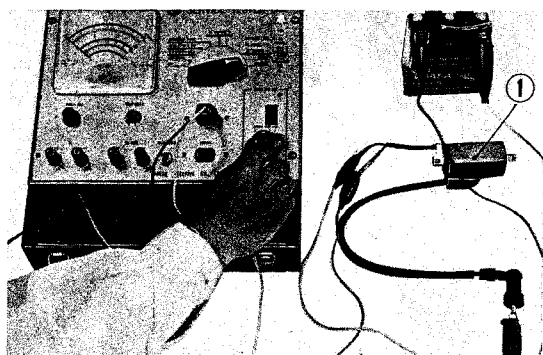
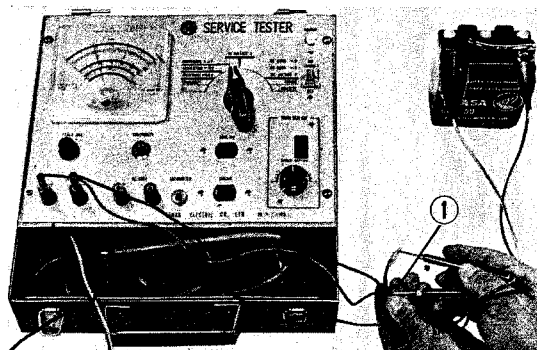

Fig. 156 Ignition coil test
Fig. 158 Condenser test
- ① Perform functional test of the ignition coil to determine its condition. When poor starting is experienced, the cause may also be found by testing the spark plug, contact breaker points, condenser, etc.
- ② Check the ignition coil using the service tester.
- ③ Connect the battery power source to the tester and ground the grounding lead. (Fig. 156)
① Separator plate ② Cathode plate ③ Separator plate
④ Glass mat ⑤ Anode plate
- ④ Connect the ignition primary cord to the tester and connect the opposite terminal end to the primary terminal of the coil. Connect the white lead with (V) type plug to the blue terminal of the ignition coil (primary side) and the red tester lead to the black terminal of the ignition coil. (Fig. 156)
- ⑤ Connect the red tester high tension cord to the high tension cord of the ignition coil.
- ⑥ Turn the selector knob to the COIL TEST position.
- ⑦ Adjust the three point spark tester to maintain maximum distance of spark by turning the control knob while observing the spark condition and then measure the spark distance.
- ⑧ If the spark plug distance is less than 6 mm (0.24 in.), the spark plug is unserviceable.
2) Condenser test (Fig. 158)